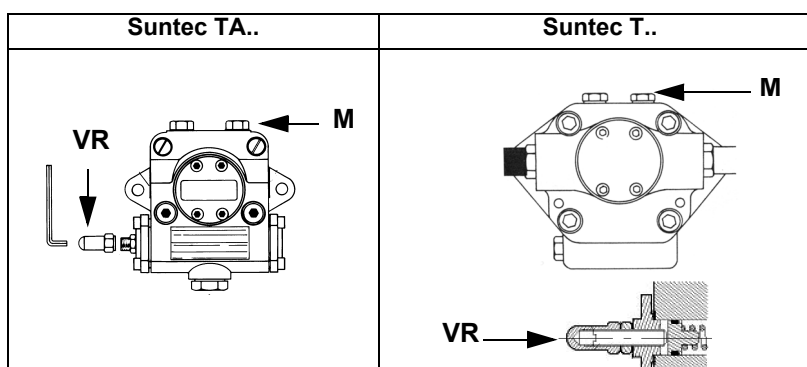
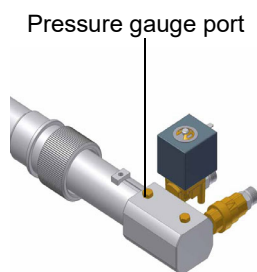

Fig. 5
Fig. 6
- 3 bleed the air from the **M** pressure gauge port (Fig. 5) by loosening the cap without removing it, then release the contactor.
the nozzle supply pressure is already factory-set and must not be changed. Only if necessary, adjust the supply pressure as follows (see related paragraph): insert a pressure gauge into the port shown on Fig. 6 and act on on the pump adjusting screw **VR** (see Fig. 5) as to get the nozzle pressure at 20 or 25bar (according to the nozzle model provided - see page 43).
- 2 Remove screws 1 ÷ 4 using the Allen key n. 3 and remove filter cover 5 in Fig. 5.